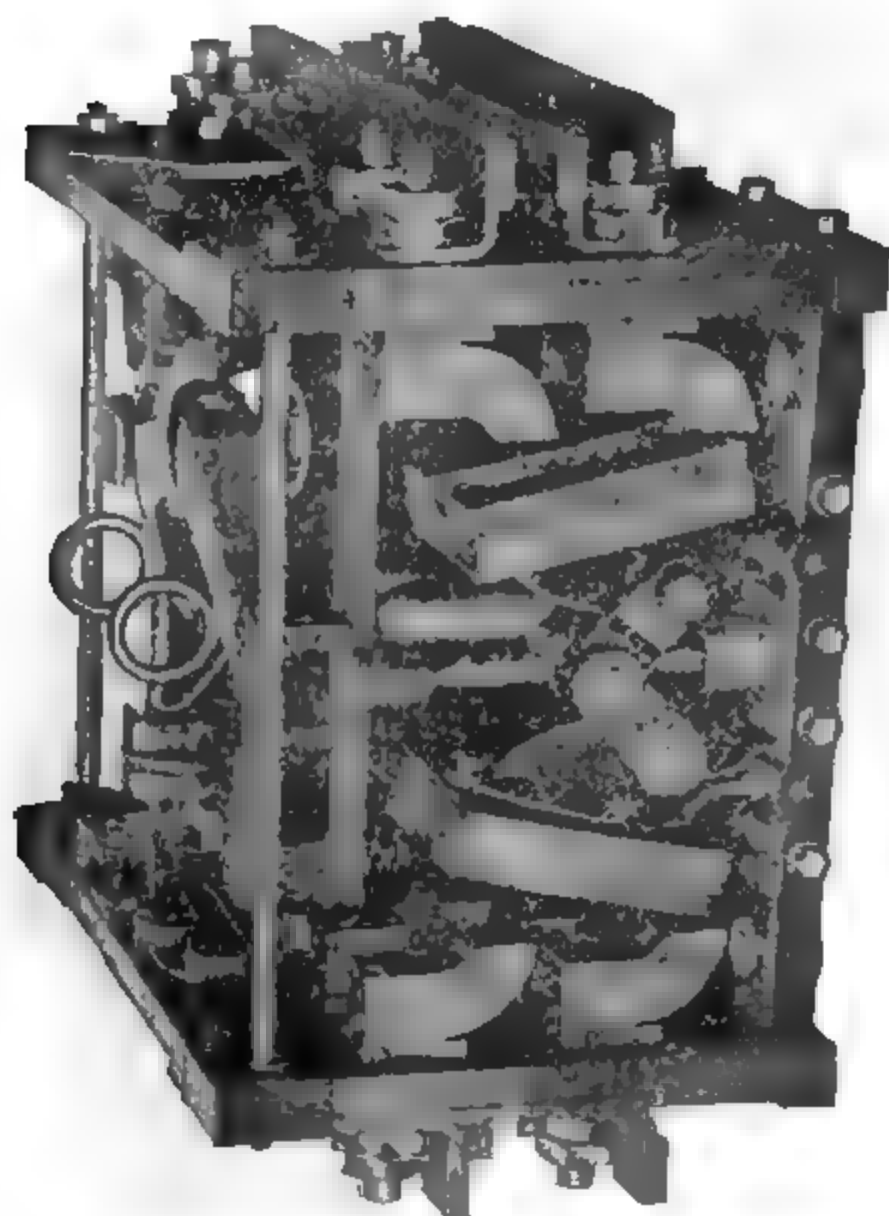

Fig. 505. Reverser for Locomotive.
49. REVERSER (Fig. 505) (see general description, paragraph 9, Suburban Cars). There are two reversers; one in each end compartment. The No. 1 reverser, which is on the main switch end of the locomotive, has the armature and field leads of the two moto-